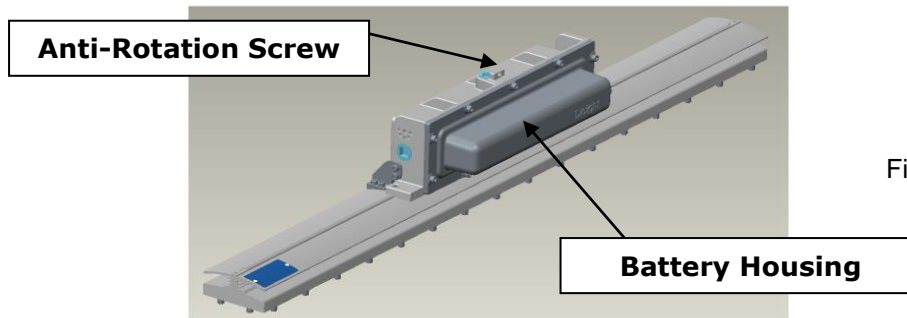

Figure 2
- Attach conduit as required, pendant mount or through mount. Use conductive pipe sealant for all fittings and conduit. If fixture is pendant mounted, tighten anti-rotation screw (see Figure 2).
- Fixture is factory wired for both pendant and through wiring. Remove (10) captive bolts to remove the Battery Housing (see Figure 2). Take care not to damage battery cable.